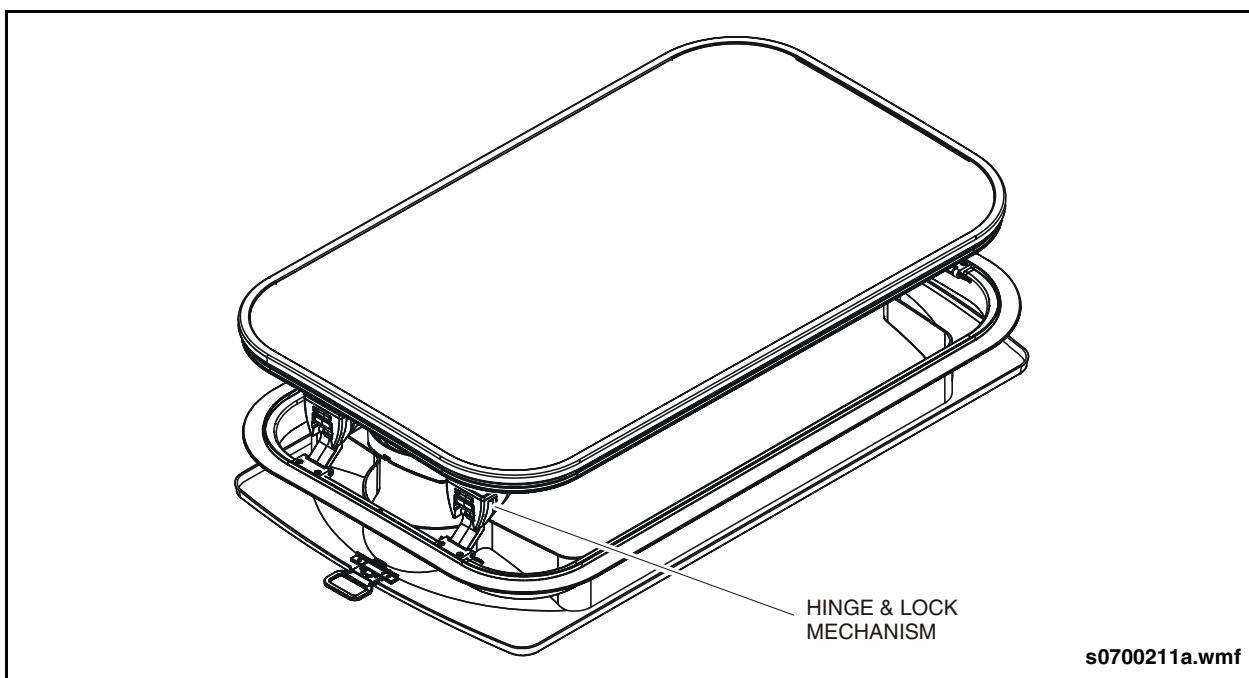

Fig. PM-22: Roof Hatch Inspection
- Inspect the vent/hatch moving parts every 6,000 miles (9,600 km). Make sure the latches close and fasten securely. The latches must fasten securely, with no slack or looseness. If the attaching hardware cannot be tightened, replace the applicable latch parts using new hardware and fasteners. See "Fig. PM-22: Roof Hatch Inspection" on page 52.